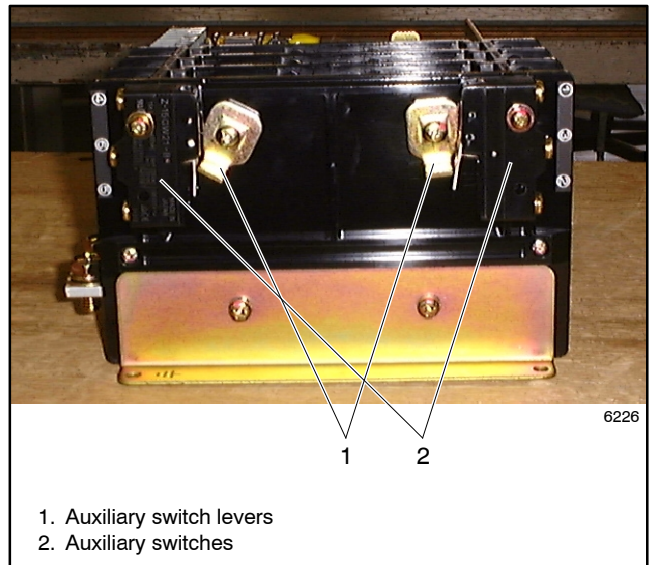

Figure 8-9 100 and 200 Amp Models
3. Reinstall the auxiliary switch levers, if removed, aligning the square indentation with the end of the square shaft. See Figure 8-9 and Figure 8-10.
4. Reinstall the auxiliary switches, if removed. The 100 and 200 amp models use one bolt and one alignment pin per switch. See Figure 8-9. Larger models use two bolts per switch. See Figure 8-10.